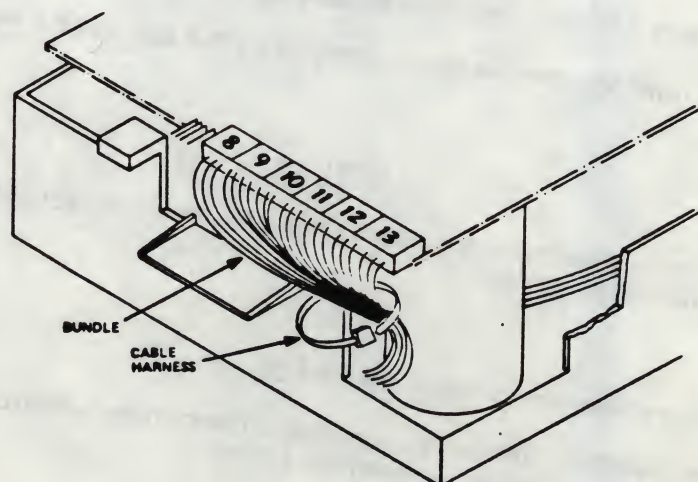

Figure 5-17
- 5.9.13** Harness the index emitter sensor cables and the index detector sensor cables to the bundle (see Figure 5-17) located at the rear of the disk drive.